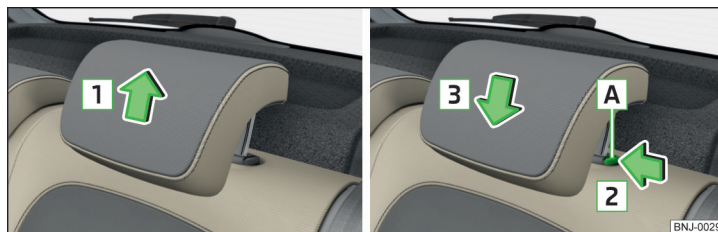

Fig. 59 Setting the height of the back headrest
- Grasp the headrest and move **upwards** in the direction of arrow **1** » Fig. 59.